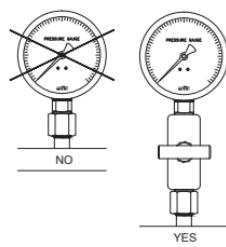

Figure 8
- 9) Install valve when the pressure gauge is first installed so that it is easily dismounted. (Figure 8)